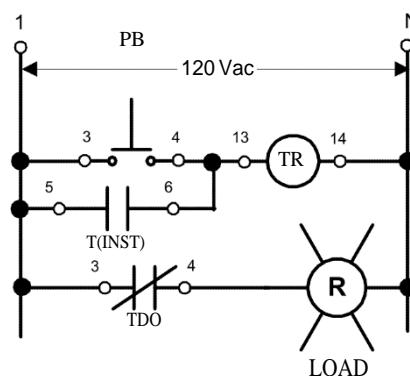

FIGURE 7.14
Step 4: a) Change the TDC contact to a TDO contact as shown in Figure 7.14.